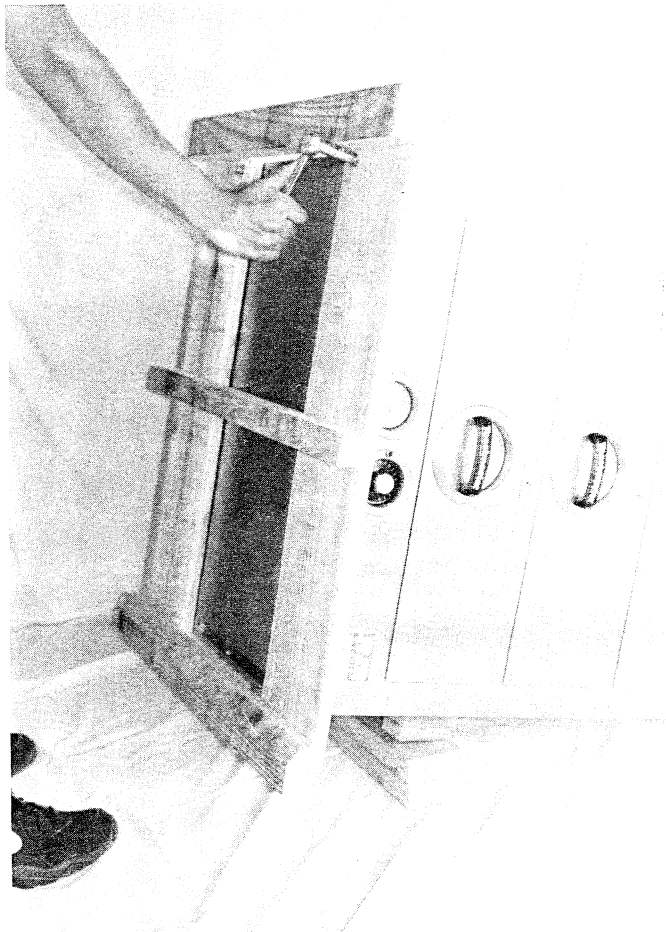

Figure 2-1
2. Remove all tape from unit and set food server on its side on three 2x4's as shown in Figure 2-1.
1. **Cabinet Cut Out and Supports.** Cut out the face of the counter fixture according to the drawing provided or refer to Figure 2-1. As shown in the drawing allow 1/2"(13mm) minimum cabinet face material above top of cut out opening. This allows unobstructed seating of hot food server flange. Be sure counter fixture has adequate depth from front face to inside of back to accept the hot food server. Minimum depth is 23" (584mm).
a. The hot food server body must be supported from the bottom. This can be accomplished by installing metal support angles or wooden support blocks as shown in Figure 2-1. The top surface of these supports must be 1/16" (3mm) below the bottom edge of the face cut out. One metal or wood crossbrace approximately 2-1/2" (64mm) wide should be securely mounted between the supports as shown. The centerline of the crossbrace must be 5-3/8"(137mm) from the face of the cut out and its top surface must be flush with the side supports.